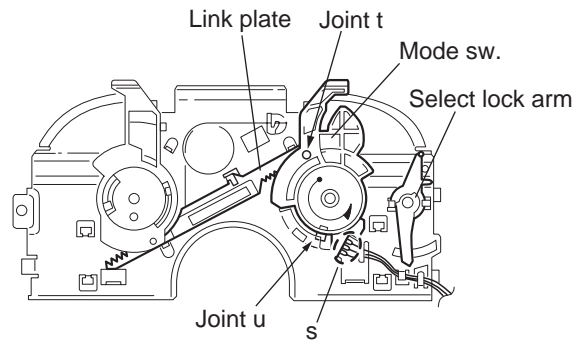

Fig.22
3.2.11 Removing the mode sw. / select lock arm (See Figs.22 and 23)